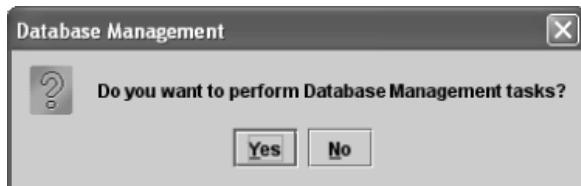

Figure 5-9. Database Management dialog box
The Database Management dialog box (Figure 5-9) appears on top of the GeneXpert Dx System window.
1. Click No in the Database Management dialog box (Figure 5-9).
1. Click Yes in the Database Management dialog box (Figure 5-9). The Database Management dialog box appears in the GeneXpert Dx System window.